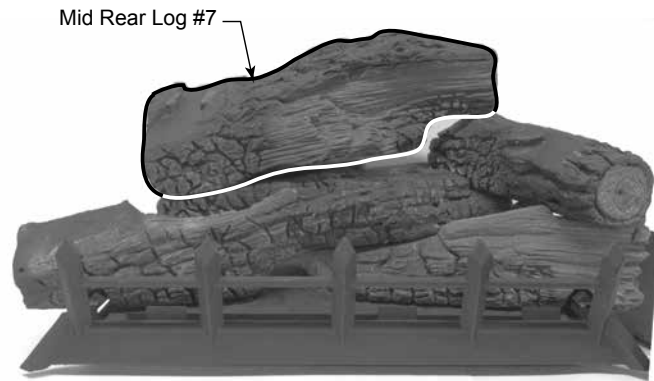

Figure 6.22 - Log #7 Placement
7. Place mid rear log (#7) on bottom rear log (#1) and mid right log (#6) by placing notch on bottom of log onto locating block on log #1. Right side of log will rest on log #6. See Figure 6.22.